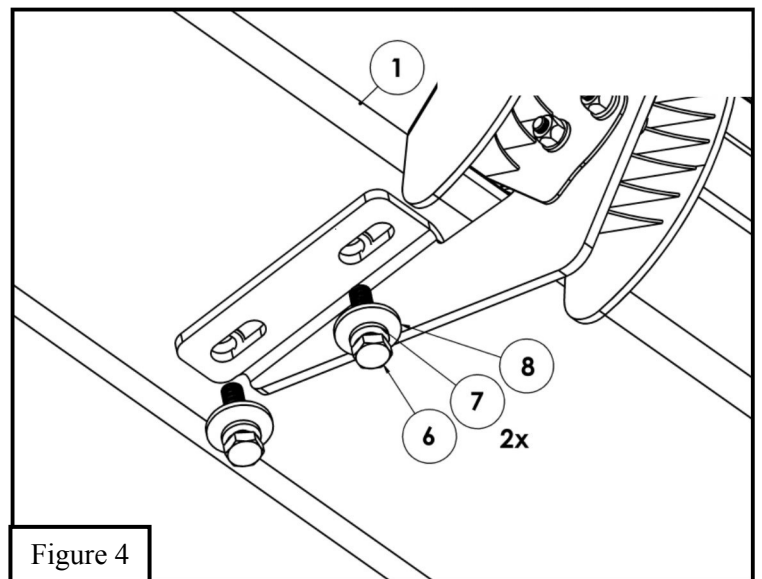

Figure 4
5. Loosely install step board to previously installed brackets with supplied M8 SEMS hardware. **See Figure 4.**